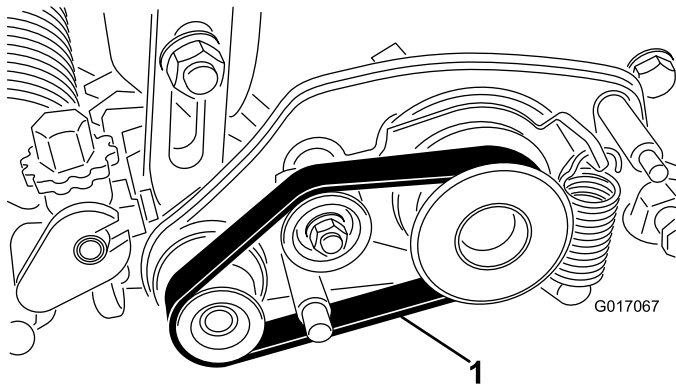

Figure 14
30. Insert the belt onto the driver pulley, idler pulley, and driven pulley, routing it as shown in Figure 14.